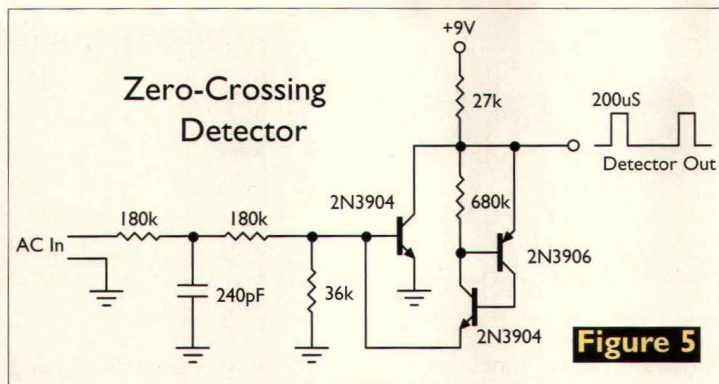

Figure 5
A. I have a popular design (as in I didn't create it myself) that's often used in commercial equipment as a zero-crossing detector. The circuit uses just three inexpensive transistors and a handful of passive parts (Figure 5). Basically, the detector is a pulse generator that is triggered by a zero-voltage input. The input RC network acts as both a voltage divider (attenuator) and filter. For the values shown, the output pulse is 200 microseconds wide.